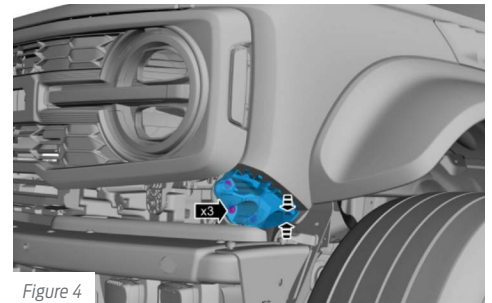

Figure 4
5. If required, on both sides, remove the screws, release the tabs and remove the damaged side bracket (torque: 18 lb.in / 2 Nm). [Figure 4]